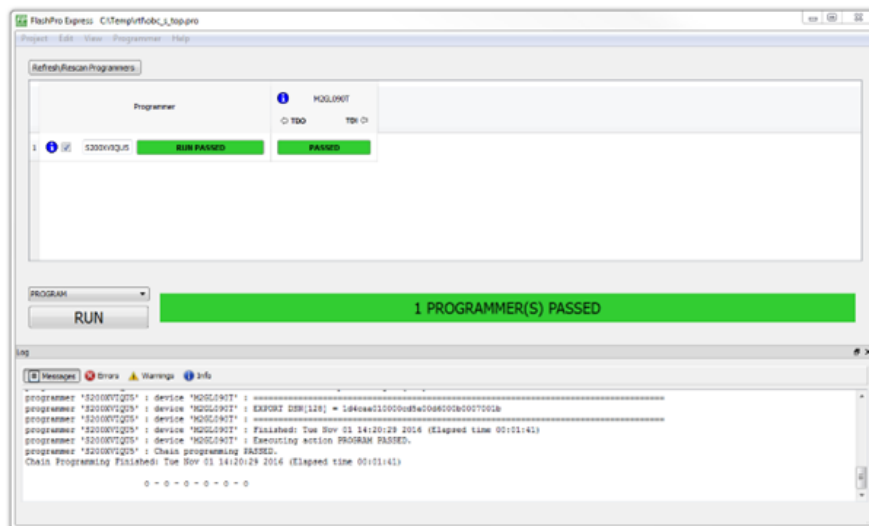

Figure 12.3 - View of FlashPro Express after program passed.
6. The FPGA should now be loaded with the new firmware, which might take a few minutes. Once it is finalized the second last message should be "Chain programming PASSED", see Figure 12.3.